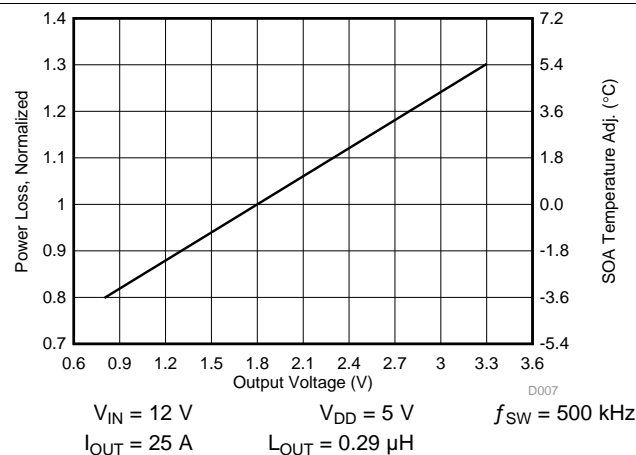

Figure 7. Normalized Power Loss vs Output Voltage
- Normalized power loss for output voltage ≈ 0.94 (Figure 7)
- SOA adjustment for output voltage $\approx -1.1^\circ\text{C}$ (Figure 7)